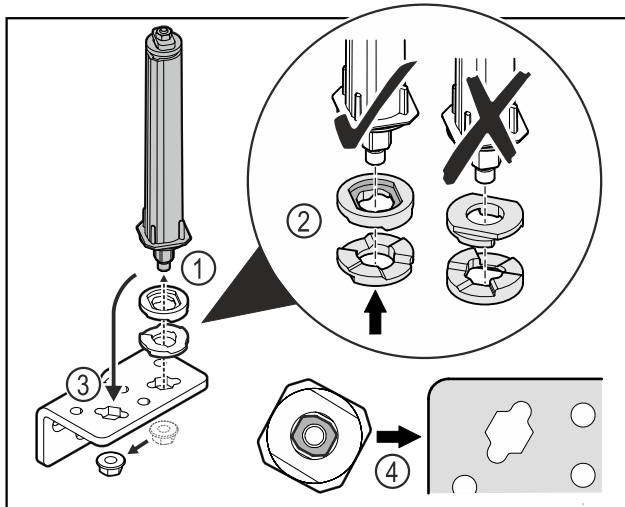

Fig. 32
- ▶ Loosen the nut and remove the door closing system Fig. 32 (1).
- ▶ Observe the correct alignment of the height adjustment washers Fig. 32 (2).
- ▶ Put the door closing system in the hinge and fix in place with the nut Fig. 32 (3).
- ▶ Observe the correct alignment of the door closing system when doing so Fig. 32 (4).